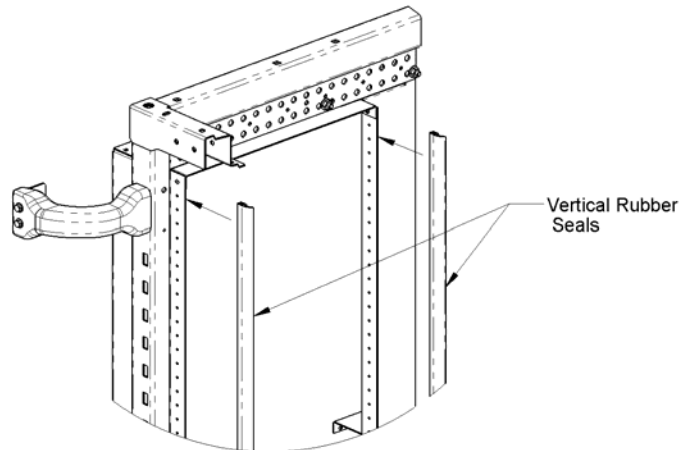

Fig. 4.2.2a Installing vertical rubber seals
1. For new installations, prior to installing duct panels, install vertical rubber seal material on the inside flanges of the duct as shown in Figure 4.2.2a.